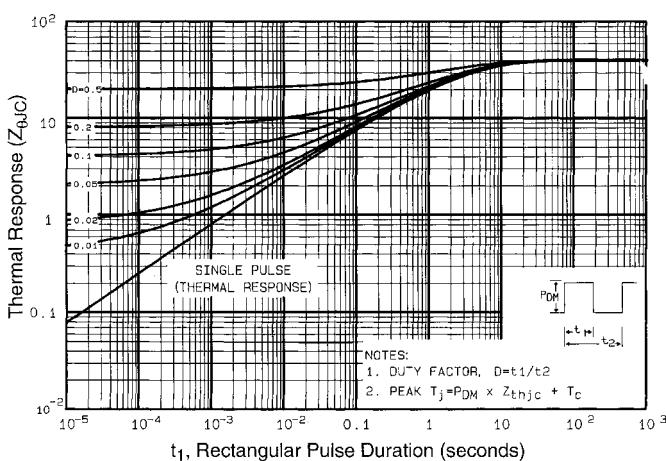

Fig 11. Maximum Effective Transient Thermal Impedance, Junction-to-Case
① Repetitive rating; pulse width limited by max. junction temperature (See Figure 11)
③ $I_{SD}\leq-4.0\text{A}$, $di/dt\leq-75\text{A}/\mu\text{s}$, $V_{DD}\leq V_{(BR)DSS}$, $T_J\leq 150^\circ\text{C}$ ② $V_{DD}=-25V$, starting $T_J=25^\circ\text{C}$, $L=7.7\text{mH}$